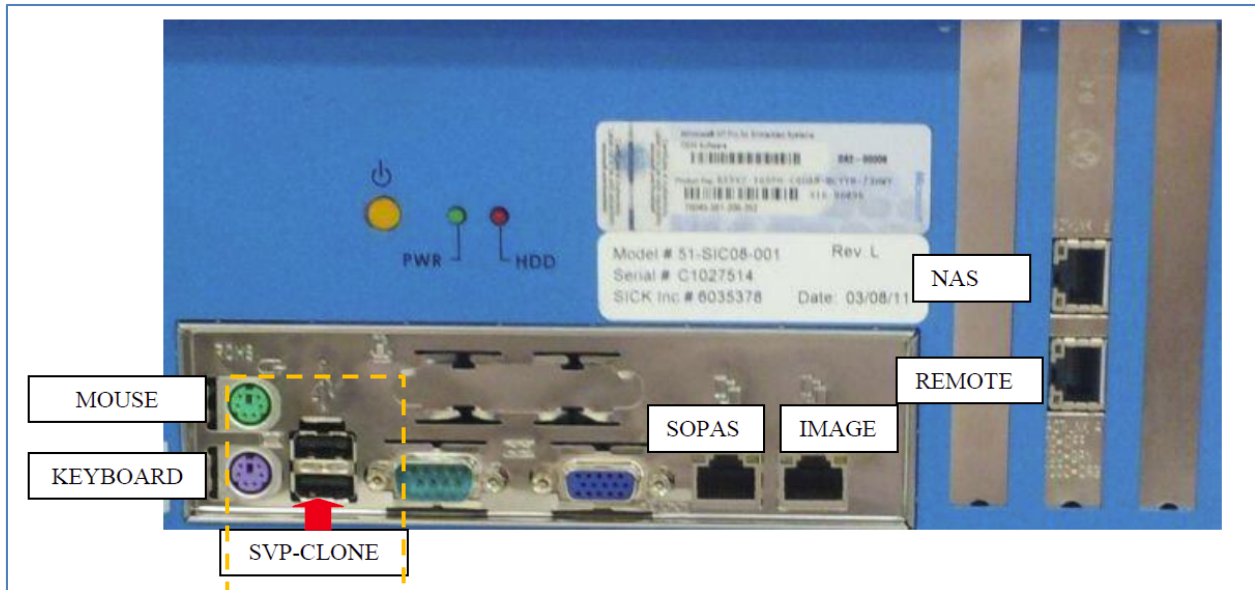

Figure 12-9: Cloning Plug Location
In the event that the PC needs to be replaced, you will need to create a backup of the PC to the cloning plug (USB drive). You will use the cloning plug called PACK-CLONE or SVP-CLONE to restore Package Analytics on the new (replacement) PC. Figure 12-9 shows the location of the cloning plug on the PC.
1. Insert the PACK-CLONE USB drive into the USB drive into the PC (Refer to Figure 12-9). Wait for the **PACK-CLONE** desktop icon to appear under **My Computer**.